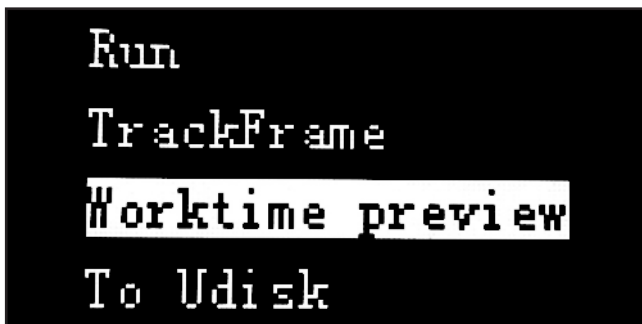

Figure 58. Job setup screen.
2. Highlight "Worktime preview" in job setup screen (see **Figure 58**).